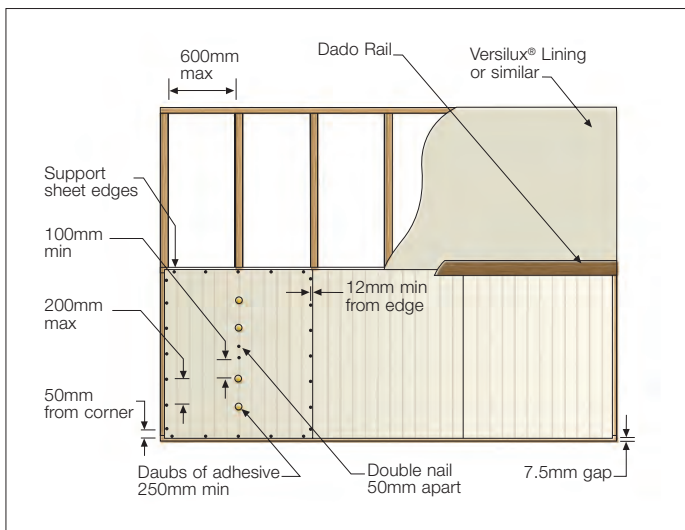

FIGURE 7 DADO HEIGHT FIXING
**NOTE:** To reduce the number of visible fixings the centre of the sheet can be fixed with adhesive. See Figure 7 for details.
HardiGroove Lining may be installed to half the wall height to create a dado appearance. Ensure top of sheet is fixed to an in-line row of noggings as shown in Figure 7.
1. Fastener fixing method is shown, however, fastener/adhesive fixing method may also be used. See Figure 7.